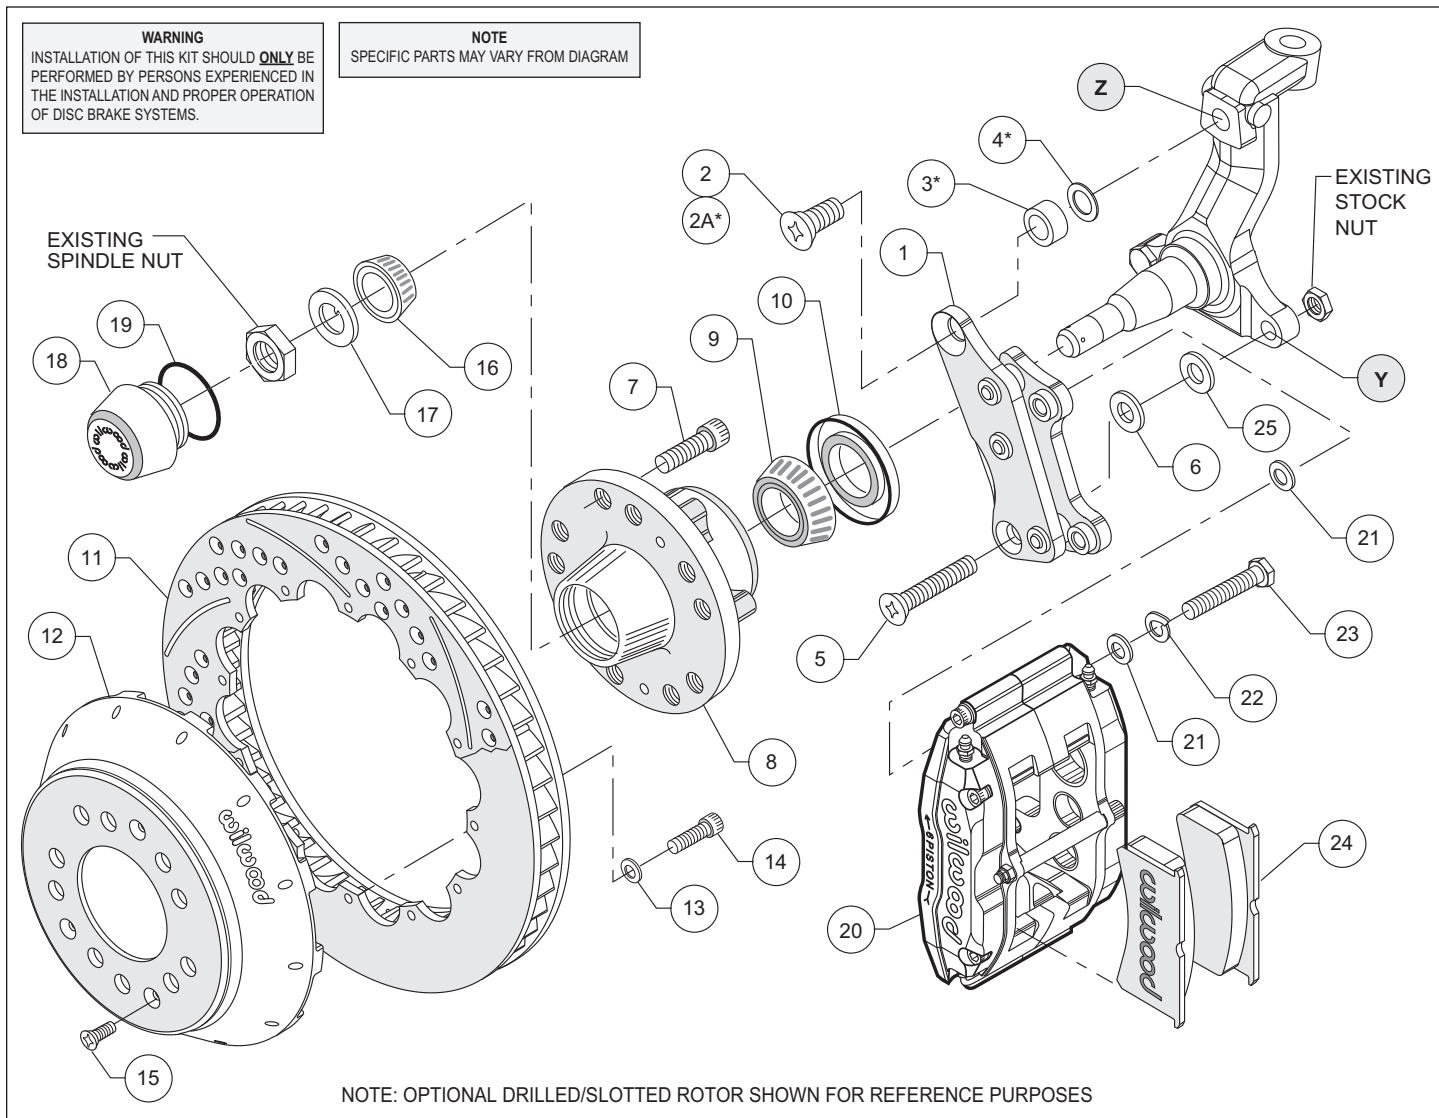
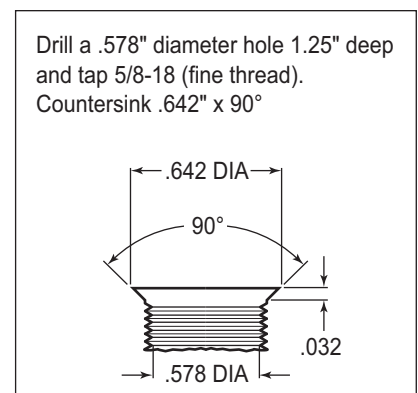

Figure 1. Typical Installation Configuration
Figure 3. Drill and Tap Detail
NOTE: 1964-66 spindles may require the following modifications (reference Figure 1 and Figure 3): Top anchor pin hole (Z) must be drilled and tapped to the dimensions as outlined in Figure 3. Bottom rear steering arm bolt hole (Y) in the spindle and steering arm must be enlarged to .50" by drilling. A 1/2-20 backing nut (not supplied in kit) will need to be acquired to torque bracket / steering arm bolt (supplied in kit)